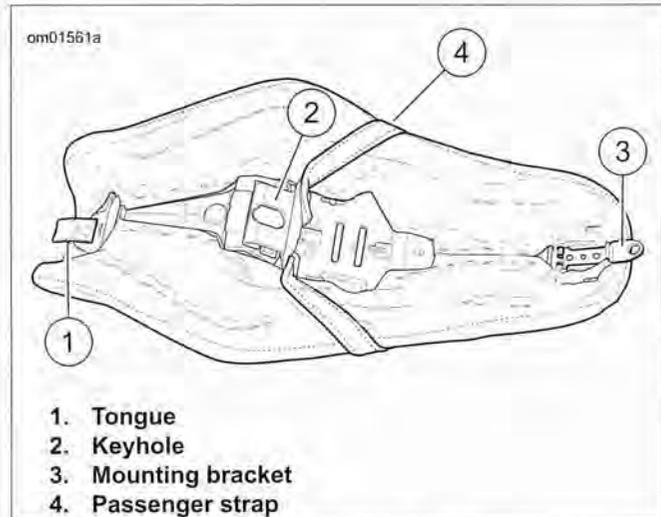

Figure 2-218. Seat: XL Two-Up
- **Two-Up Seat:** See Figure 2-218.
3. Verify that tongue (1) and mounting bracket (3) are tightly secured to the seat bottom.
4. If two-up seat, inspect passenger strap (4) for damage or excessive wear.